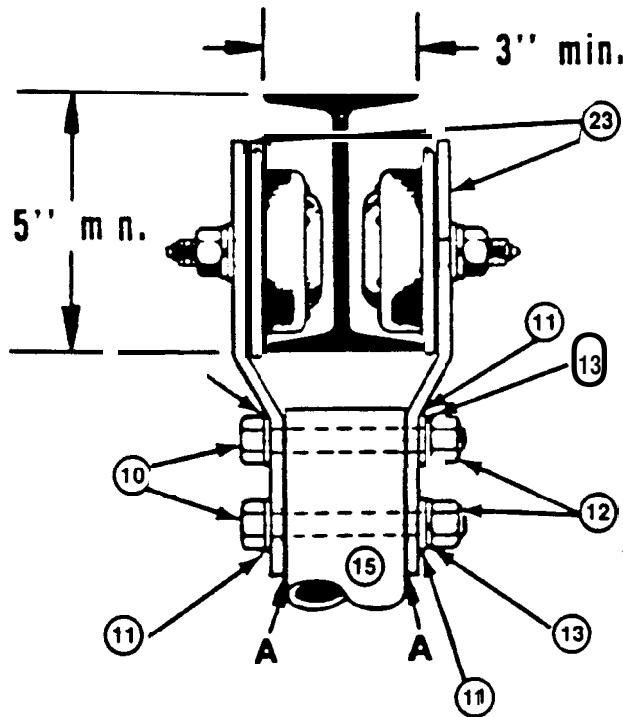

FIGURE 5
8. Assemble the Trolley item 23 to the head support tube as shown in Figure 5. Do not fully tighten bolts.
NOTE If an "I" beam with a flange width greater than 3 inches is used., it will be necessary to shim at point "A" in Figure 5 to retain the trolley assemblies in a parallel position. Use longer bolts if required.